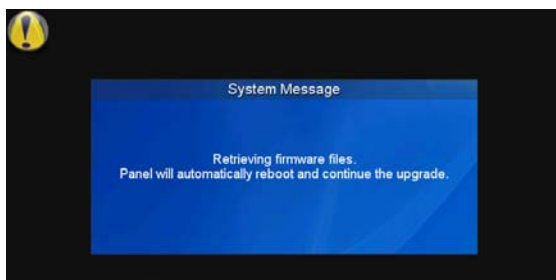

FIG. 102 Upgrading from Previous Firmware System Message
5. If you choose **Yes**, the device will retrieve the files and then reboot (FIG. 102).